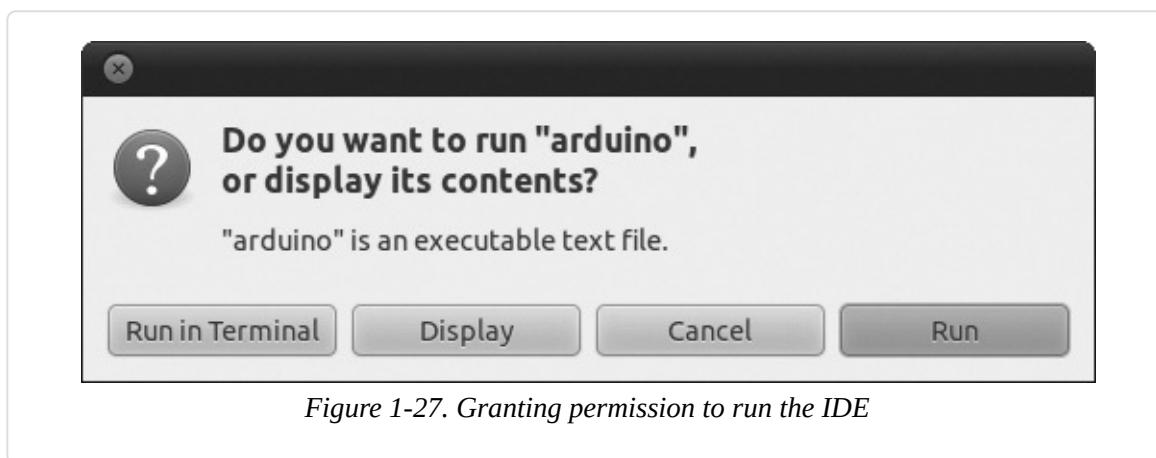
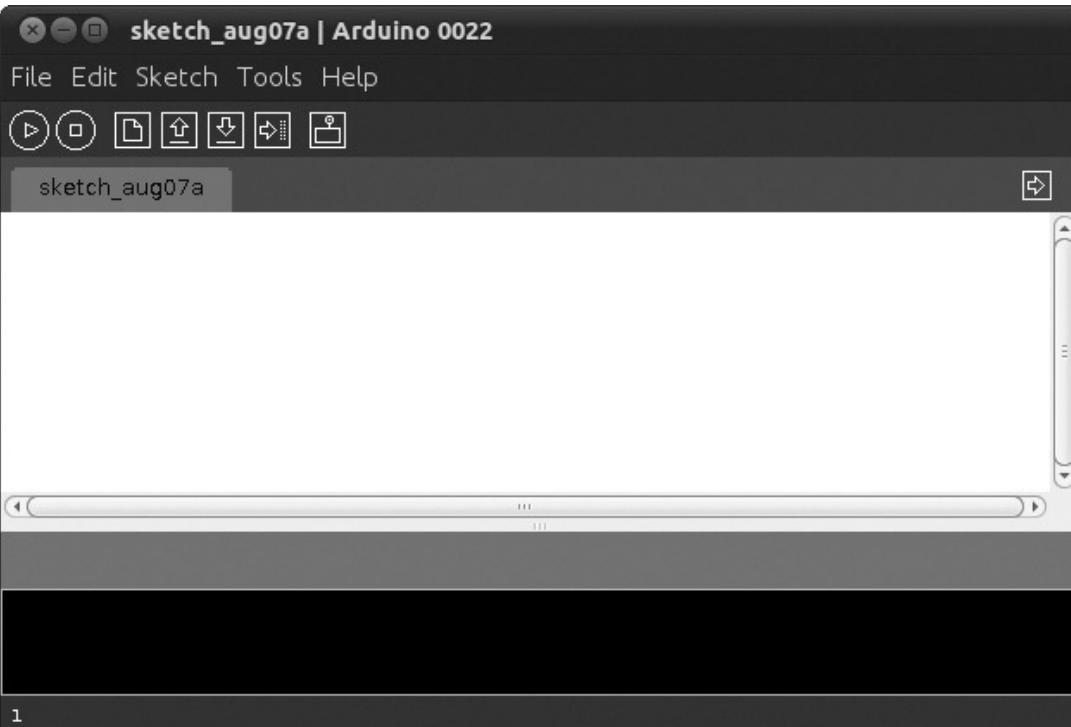

Figure 1-27. Granting permission to run the IDE
Figure 1-28. The IDE in Ubuntu
2. If the dialog shown in Figure 1-27 appears, click **Run**, and you will be presented with the IDE, as shown in Figure 1-28.